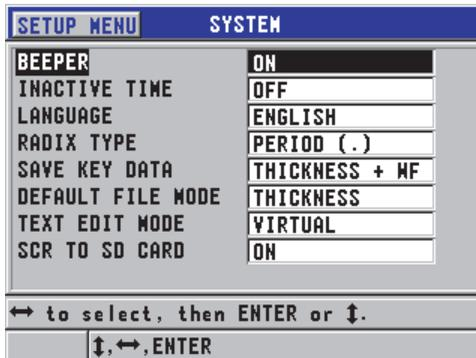

Figure 8-2 The SYSTEM screen
1. In the measurement screen, press **[SETUP]**, and then select **SYSTEM**. The **SYSTEM** screen appears (see Figure 8-2 on page 140).